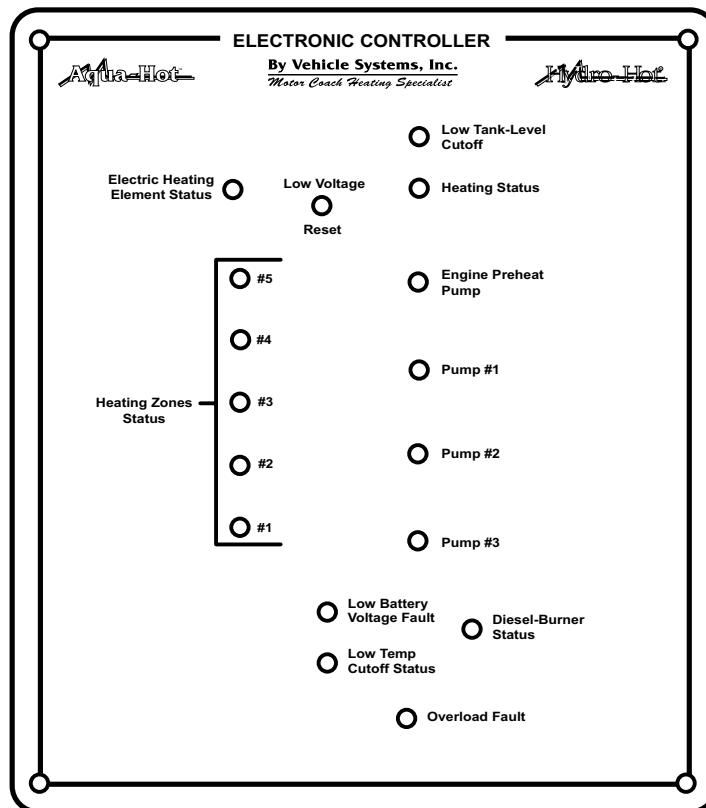

Figure 5
NOTE: The Hydro-Hot's "Domestic Water Priority System" disables the interior Zone Heating Fans, Zone Circulation Pumps, and the Engine Preheat Pump (if applicable) whenever domestic hot water is being used on a continuous basis (i.e. during showers). Once the demand for continuous domestic hot water ceases the Hydro-Hot will enable the Fans and Pumps to operate and provide heat to the Heating Zones. Please note that the Electronic Controller's Low Temperature Cutoff Status indicator light will illuminate GREEN whenever the Hydro-Hot is able to provide zone heating, reference **Figure 5**.
If the Hydro-Hot's Diesel switch "Indicator Light" does not illuminate, and the Diesel-Burner is not functioning, locate the Electronic Controller (**Figure 5**) and check the following:
- A. Check the Hydro-Hot's Electronic Controller for any RED lights indicating a fault condition. Reference **Figure 5** and the Electronic Controller Troubleshooting section to identify these fault conditions.